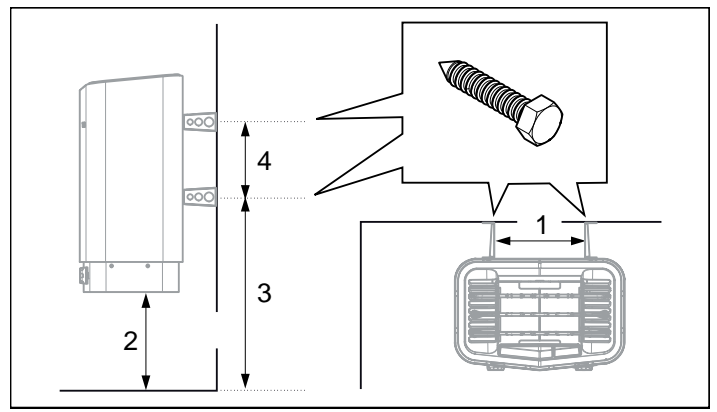

Figure 11: Dimensioning
- Position the bracket screws according to the specified dimensioning see Fig. 11.